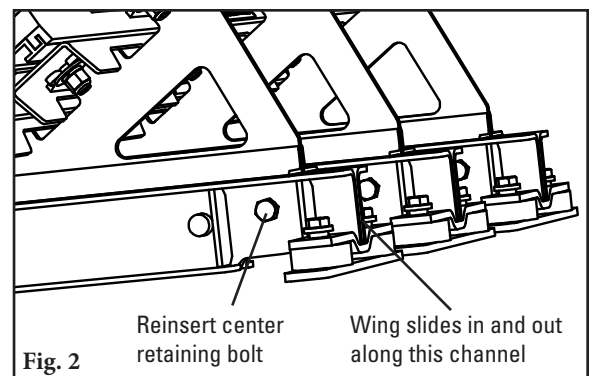

Fig. 2
2. **Visually locate center of loading zone.** Determine the center of the load zone on one side of the structure and mark (Fig. 2).
2. **Loosen bed halves.** Remove bolt from each side of each cross-stringer (Fig. 2).